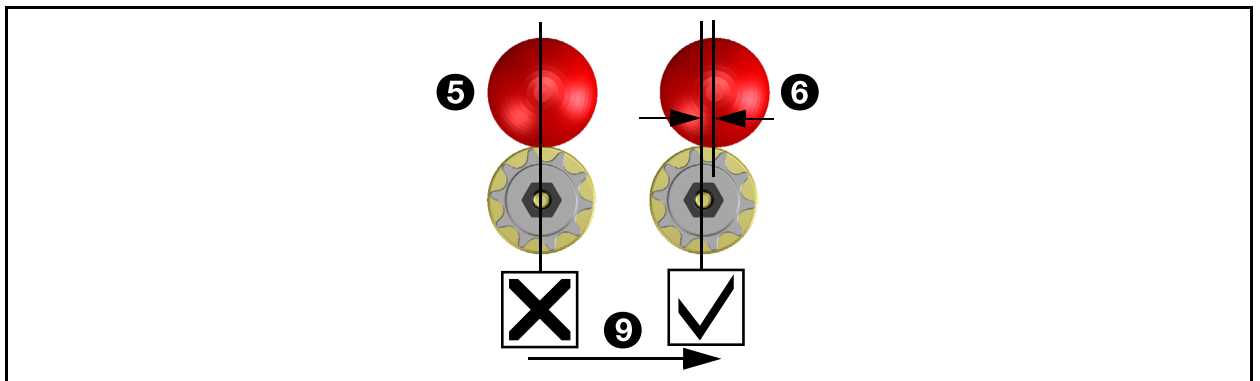

Fig. 72 - Transfer of small egg
When the egg is transferred by the carrier it must not be placed precisely on (5) a roller but slightly (6) above it. See fig. 72.